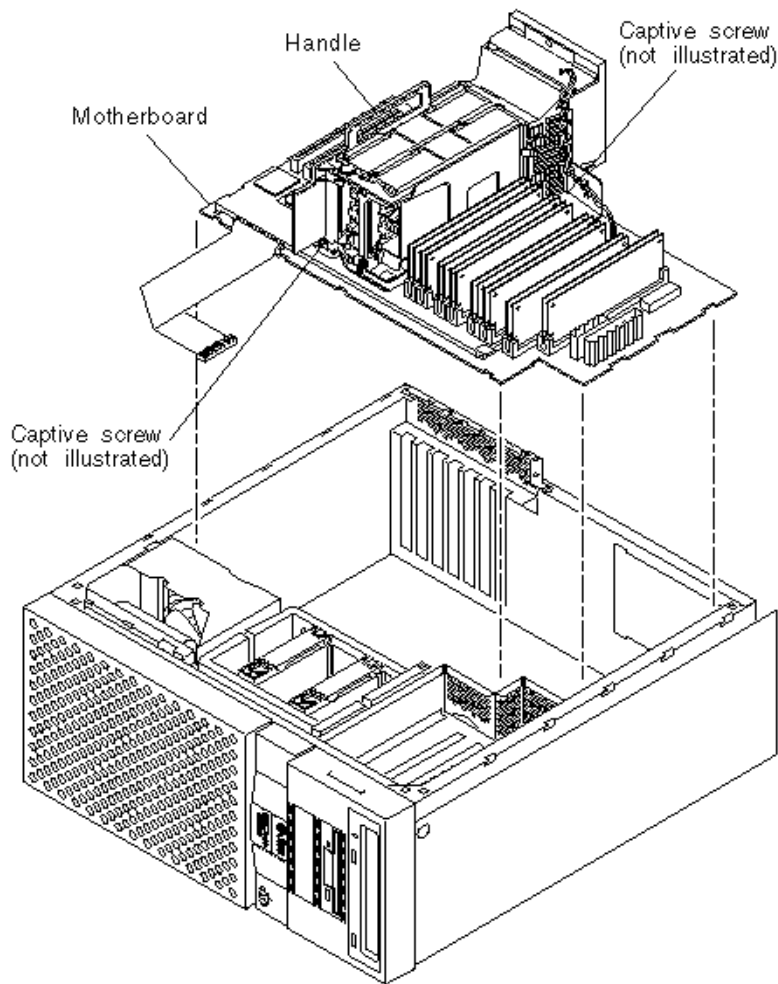

Figure 10-8 Removing and Replacing the Motherboard (Part 2 of 2)
- Loosen the two captive screws (until they pop up) securing the shroud assembly and the motherboard to the chassis (Figure 10-8).
- Tighten the two captive screws securing the shroud assembly and the motherboard to the chassis (Figure 10-8).